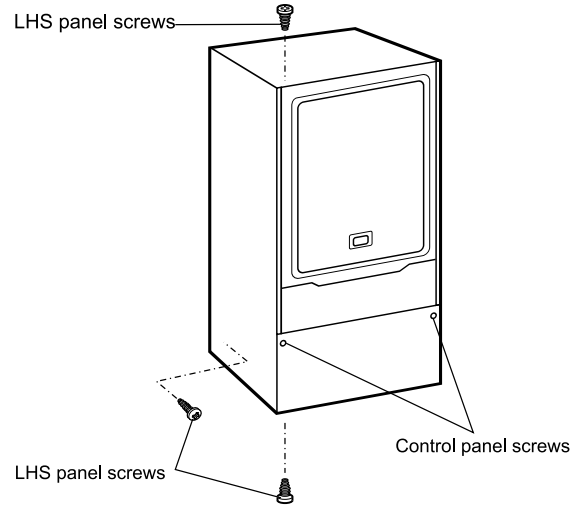

Fig. 3
### 4.3 CONVERT THE BOILER FOR FITTING THE COMBIMAX - Figs. 3, 4, 5 and 6
1. Lower the front cover and loosen the two fixing screws securing the control panel as shown in Fig. 3.
2. Remove the left hand side panel of the boiler by removing the top and two bottom screws as shown in Fig. 3.